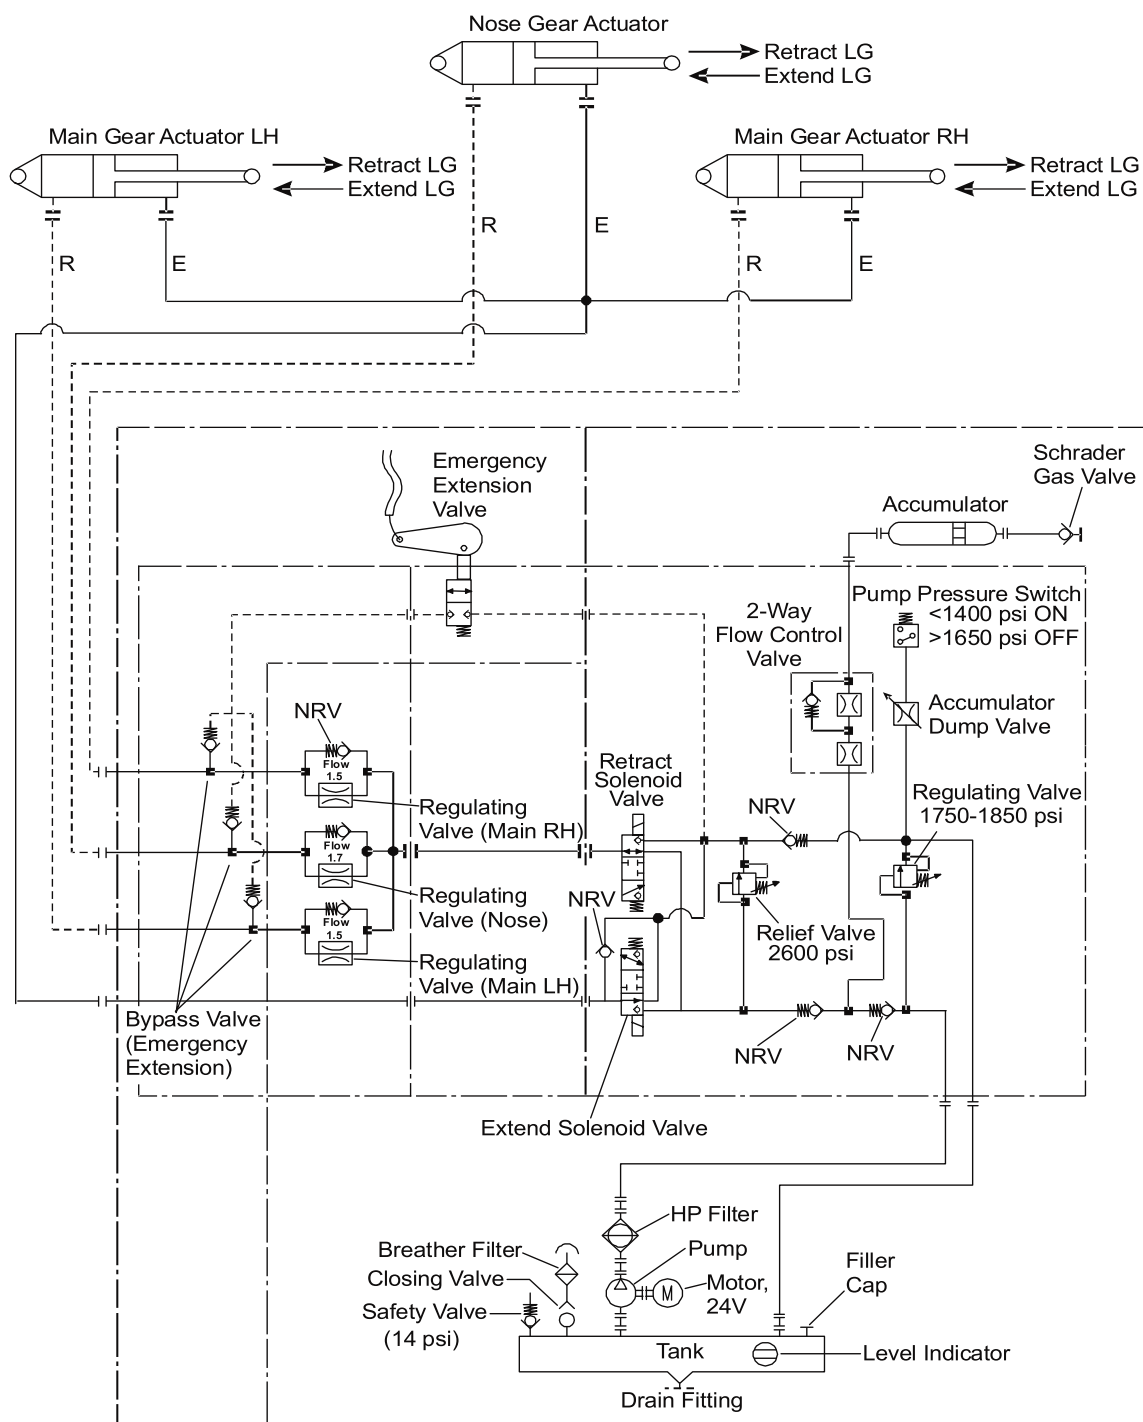

Figure 5 : Hydraulic Schematic Diagram - 'Full Pressure' Retraction Operation
- When the landing gear is fully retracted the nose landing gear UP micro switch operates and the extend solenoid valve is energized and moves to the 'full pressure' position (Figure 5). Fluid returning from the extend side of the actuators flows through the extend solenoid valve and back into the reservoir. The full pump pressure acting on the retract side of the actuator pistons holds the landing gear in the fully retracted position.